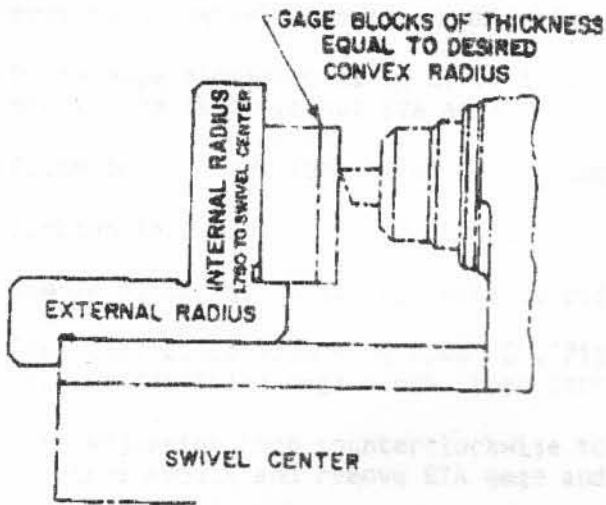

Figure 6 - External Radius Setup
1. Place RTA gage onto tool slide swivel base with **EXTERNAL RADIUS** side resting on swivel base as shown in Figure 6.